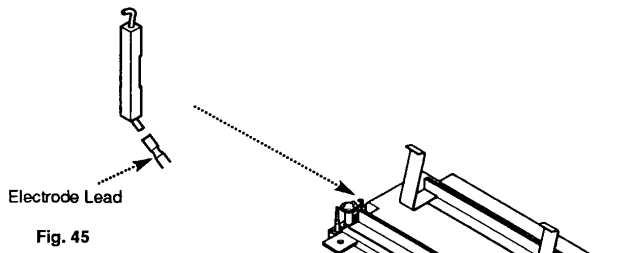

Fig. 45
1. Pull the electrode lead off the electrode (Fig. 45).